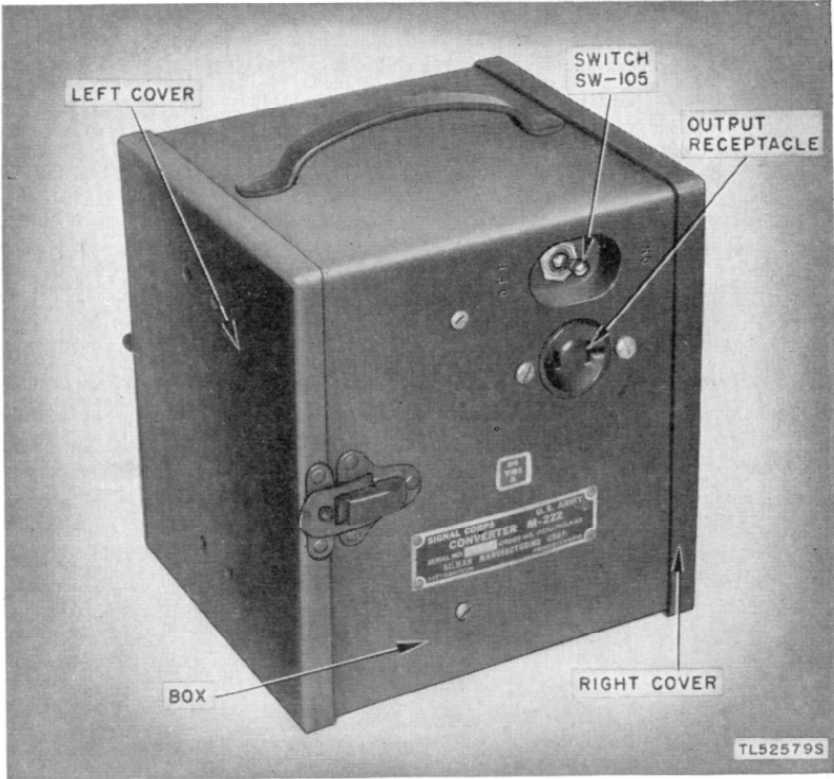

Figure 2. Converter M-222—outside view.
a. Box. Converter M-222 is housed in a rectangular steel box with two removable sides. (See fig. 2.) On the front panel are mounted an output receptacle, a nameplate, the lower section of one catch fastener, and Switch SW-105. The switch is mounted in a recess in the panel. The ON and OFF positions of the switch are marked on the panel.
- a.* Operate Switch SW-105 (fig. 2) to the OFF position.